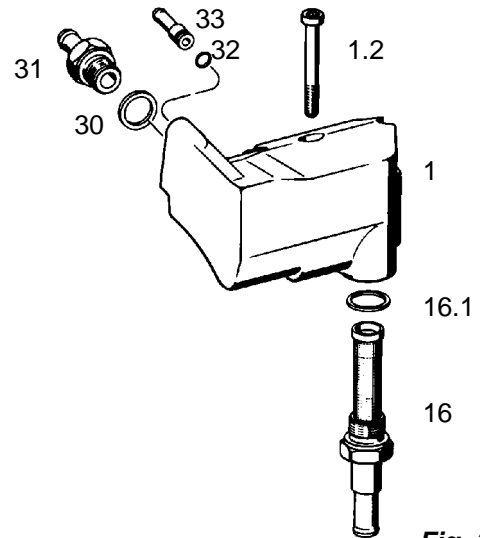

Fig. 3
1.4 Versions with screen (16)
Loosen the cap screws (1.2) and remove the oil tank (1) (**Fig. 3**).